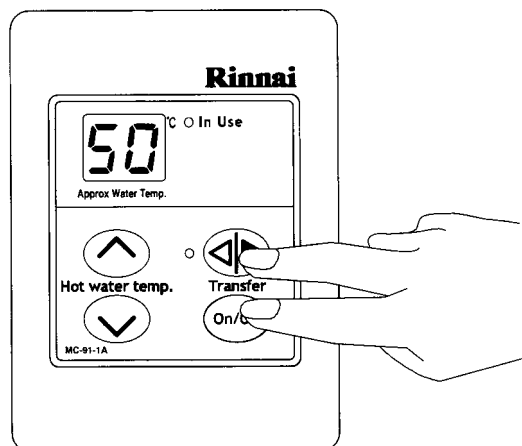

Fig 2.
STEP 1: On the Master controller only press and hold the **Transfer** and **On/Off** buttons simultaneously (see fig 2.) until a “beep” is heard (approx. 5 seconds)